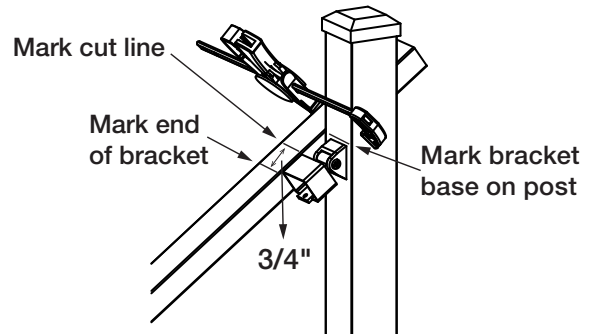

fig. 10
Step 5 Measure the distance between installed posts to determine the length of the top rail. Position the railing on the stairs on top of a spacer block along the stair nosings. The distance between the post and the cable spacer should be equal on both ends. Once the railing is in position, clamp the railing to the posts. Temporarily assemble the swivel brackets. Position the swivel bracket in location along the clamped rail. Mark the rail at the end of the bracket, add 3/4" and make a second mark for cutting. Mark the post along the top or bottom of the bracket base (B4). See fig. 10. Repeat for the other bracket and post locations.
Step 6 Mark locations of the bracket screw holes on the the bottom of the rails. Remove brackets. Predrill through the rail only, using a 1/8" drill bit. Attach the front end of brackets (B1) to rails using (2) #10 x 1" Pan Head Screws (B9) provided.
Step 7 Holding the bracket bases on the posts at the previously marked locations, transfer the location of the bracket base (B4) screw holes onto the post. Note: Include the bracket side cover (B3) when determining the center location. Predrill through the post, using a 1/8" drill bit. Position the base of each bracket with the bracket cover side facing the stairs, and attach to the post with the (2) #10 x 1" Self Drilling Flat Head Screws (B7) provided.